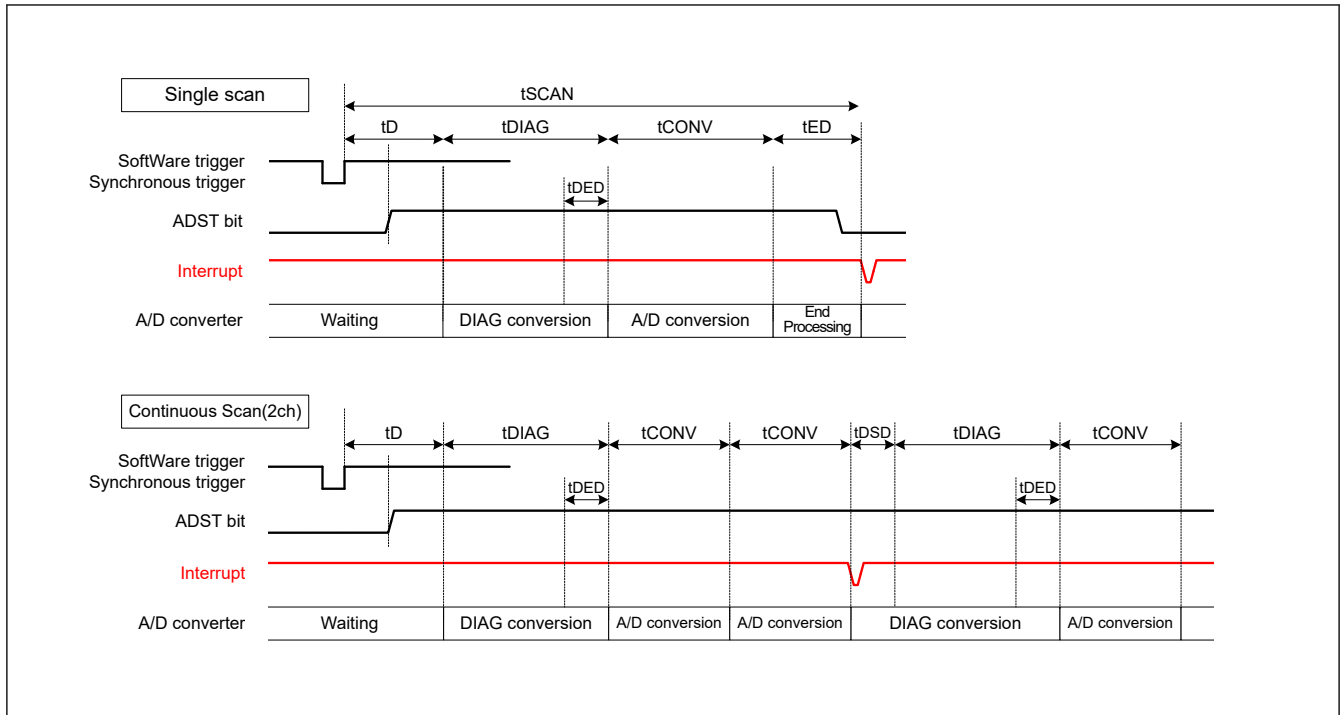
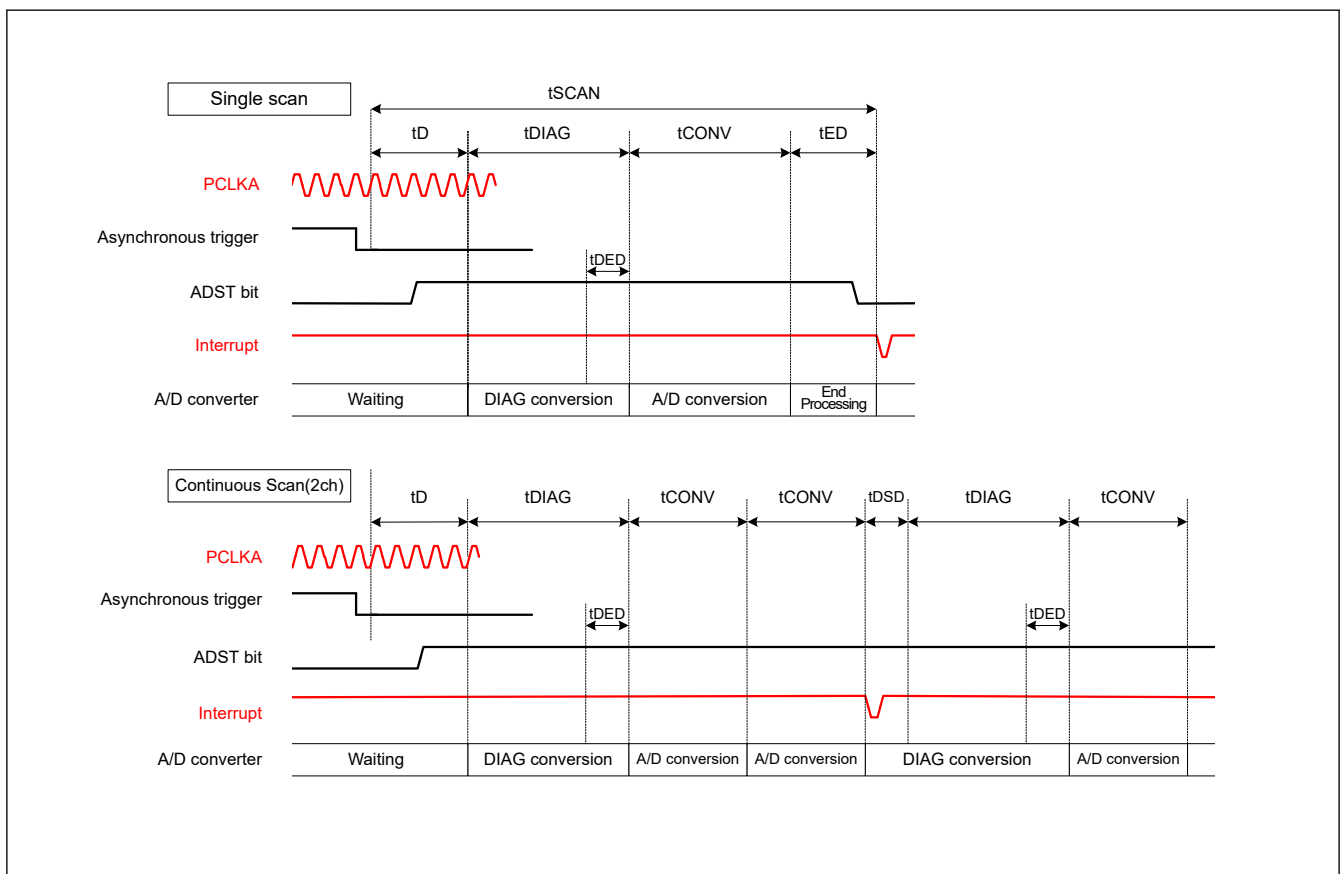

Figure 35.26 Scan conversion timing when activated by software or a synchronous trigger input (ELC)
Figure 35.27 Scan conversion timing when activated by an asynchronous trigger input (ADTRG0)
Figure 35.26 shows the scan conversion timing, in which scan conversion is activated by a software trigger or a synchronous trigger (ELC). Figure 35.27 shows the scan conversion timing, in which scan conversion is activated by an asynchronous trigger (ADTRG0). The scan conversion time (t_{SCAN}) includes the start-of-scanning-delay time (t_D), disconnection detection assistance processing time (t_{DIS})^{*1}, self-diagnosis A/D conversion processing time (t_{DIAG} and t_{DSD})^{*2}, A/D conversion processing time (t_{CONV}), and end-of-scanning-delay time (t_{ED}).
- Note 1. See Figure 35.26 and Figure 35.27 for an illustration of times t_D , t_{SPLSH} , t_{DIAG} , t_{CONV} , and t_{ED} .